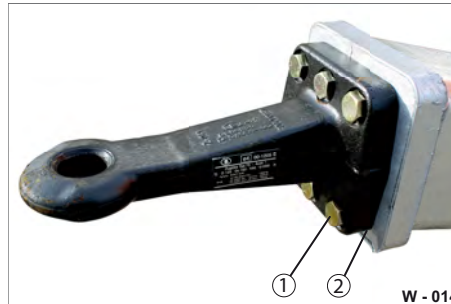

Fig. 17 Towing eye connection
- ▶ Re-tighten the threaded bolts (Fig. 17/1) in crosswise sequence.